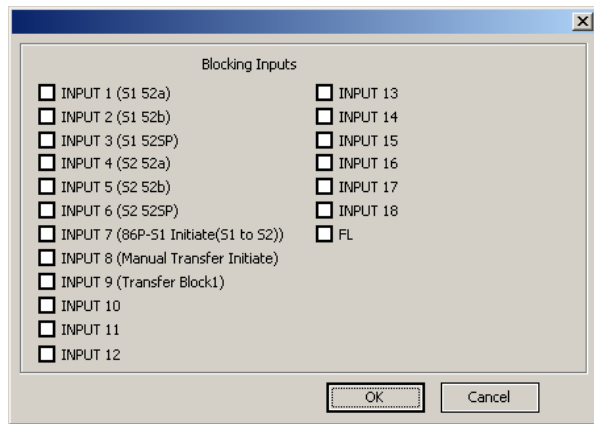

Figure 4-99 Selection Screen for Blocking Inputs
17. If desired select Blocking Inputs button. ISSLogic will display the Blocking Inputs Selection screen (Figure 4-99).